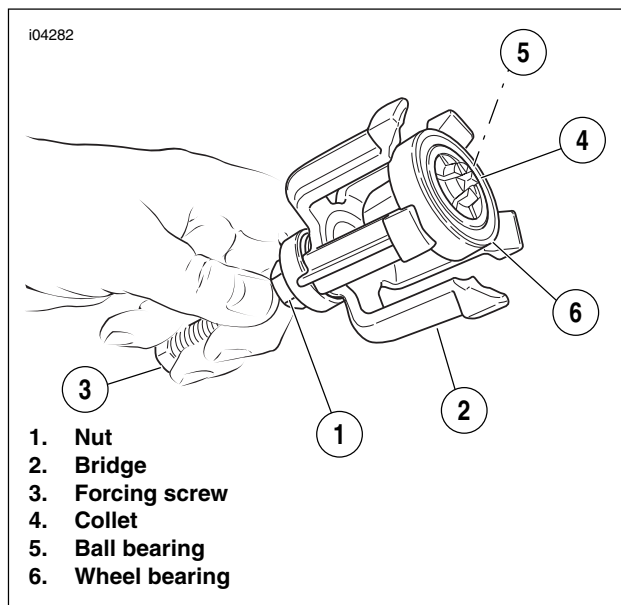

Figure 2-10. Removing Bearing from Puller
10. See Figure 2-10. Loosen the nut (1), and back off the bridge (2). Hold the forcing screw (3) while holding the collet (4) to remove the forcing screw from the collet.
11. Remove the ball bearing (5) and wheel bearing (6) from the collet (4).